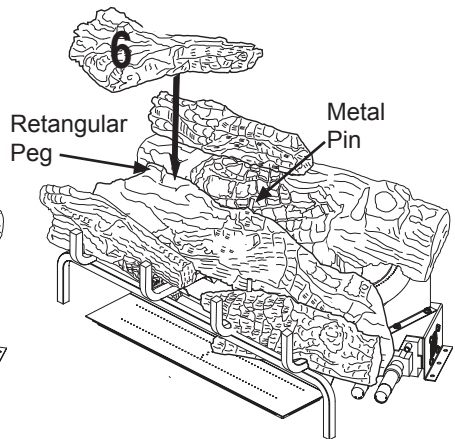

Figure 42 - Installing Log # 6
5. Place the left top forked log (#6) on the top of the middle log (#2). Match the rectangular projection on top of the middle log (#2) with the rectangular hole on the bottom of the left top forked log (#6). Match the metal pin on the top of the middle log (#2) with the round hole in the bottom of the left top forked log (#6). See Figure 42.